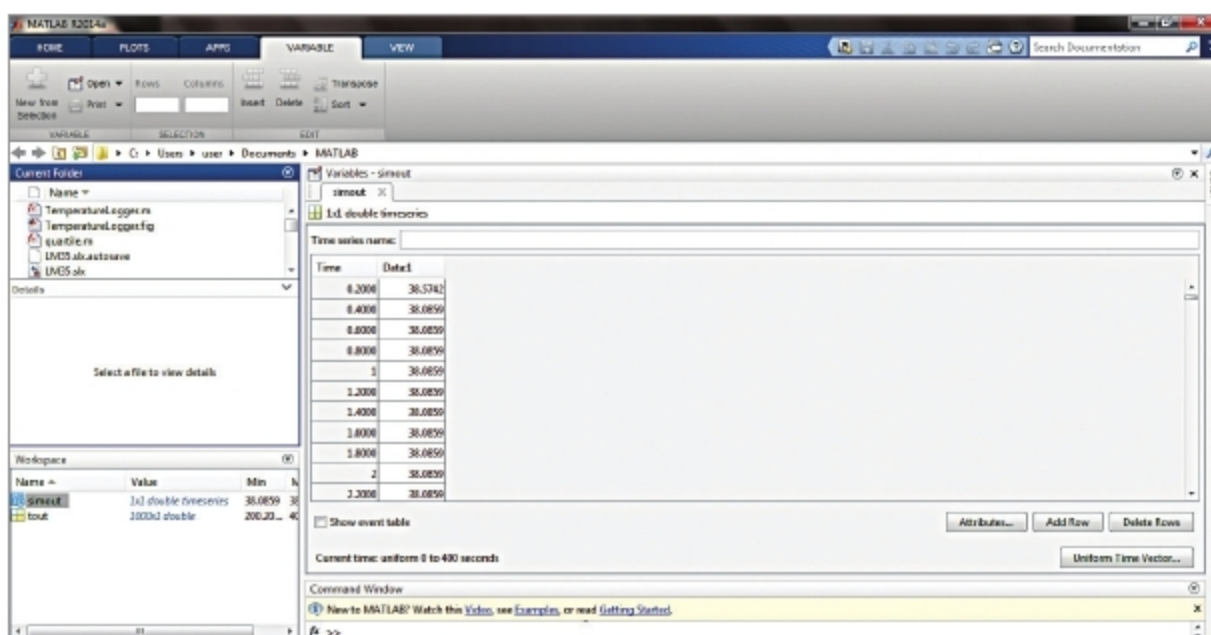

Fig. 4: Screenshot of the temperature data stored in MATLAB workspace
- The corresponding value of temperature can be seen on the 'Display' block in the model window. Additionally, the temperature data is also logged in MATLAB workspace variable 'simout'. When the simulation terminates, the temperature data can be read by double-clicking on 'simout' in the workspace window of MATLAB. The screenshot of the temperature (in degC) data saved in MATLAB workspace is shown in Fig. 4 **EFY**